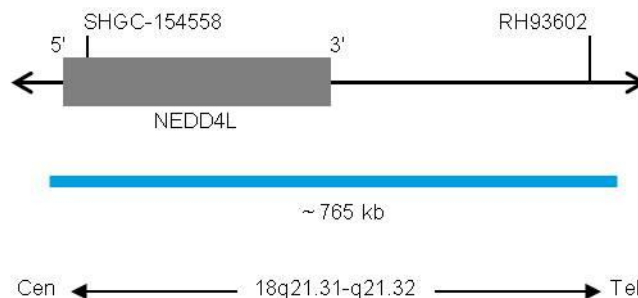

Fig. 1: SPEC 18 Probe map (not to scale)
- ZyBlue (excitation 418 nm/emission 467 nm) labeled polynucleotides (~37.0 ng/μl), which target sequences mapping in 18q21.31-q21.32* (chr18:55,690,725-56,455,119) (see Fig. 1).